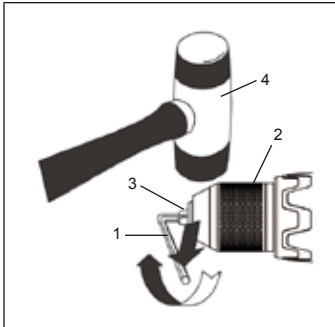

FIG. 13
2. Insert a 5/16" (8 mm) or larger hex key (1) into the chuck (2) and tighten the chuck jaws securely (Fig. 13). Make sure each of the chuck jaws (3) is seated on the flat surfaces of the hex key.
3. Tap the hex key sharply with a mallet (4) in a CLOCKWISE direction. This action will loosen the screw in the chuck for easy removal.